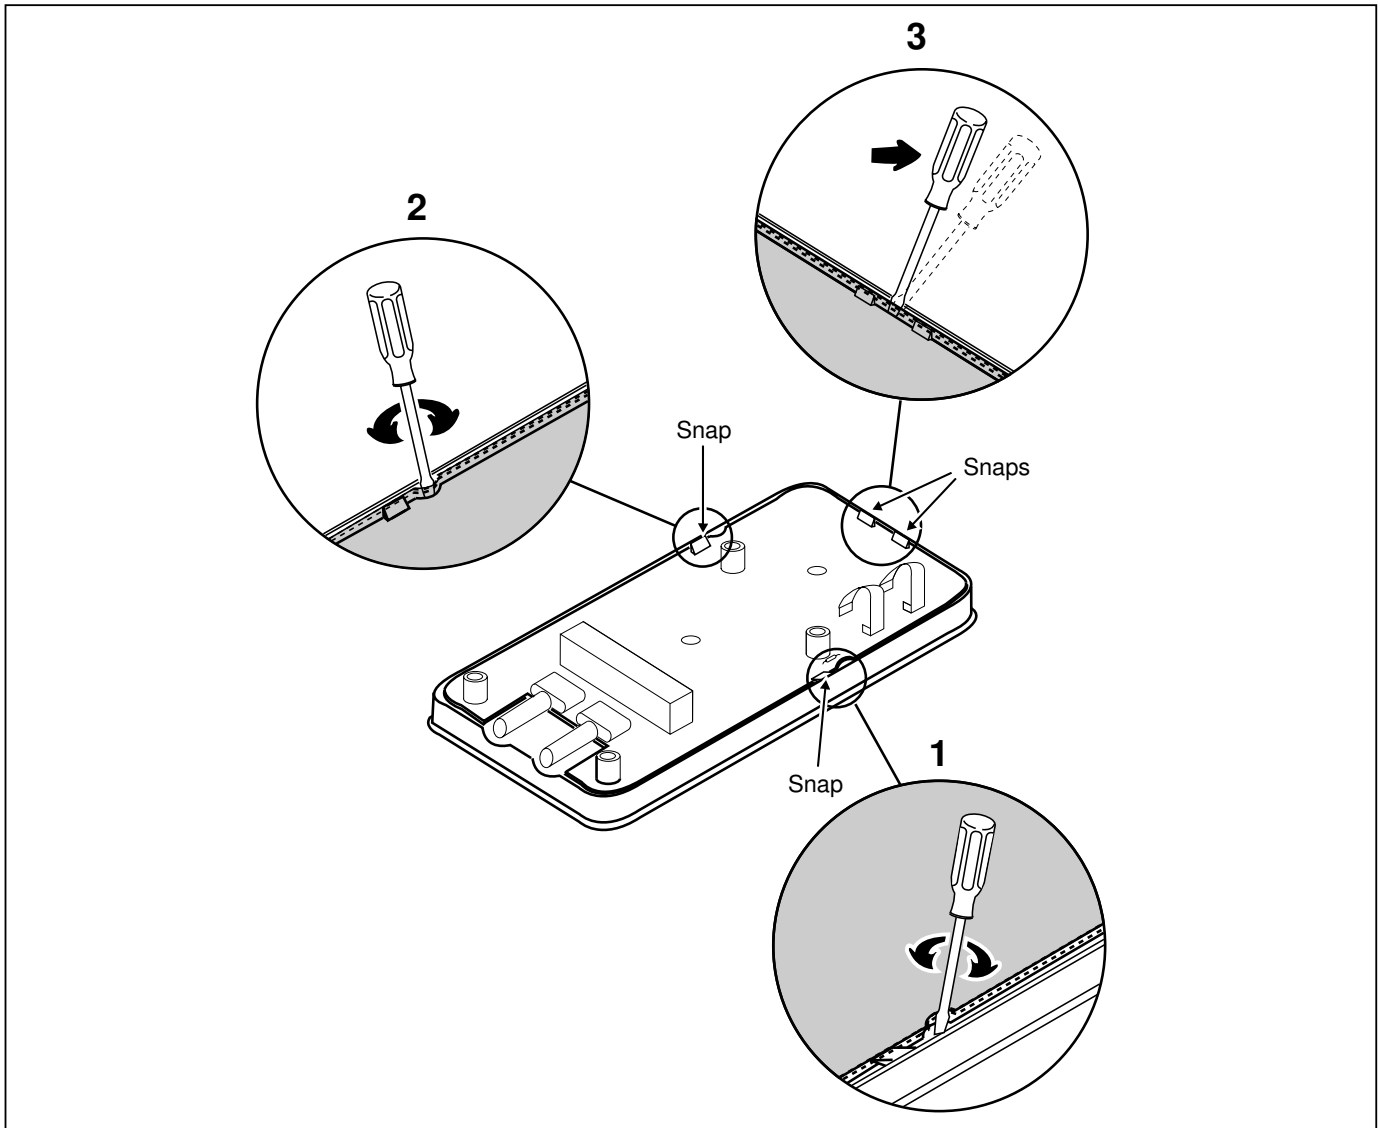

Figure 3. Removing and Reinserting the Printed Circuit Assembly (PCA)
6. Referring to Figure 3, insert a small, flat-blade screwdriver between the edge of the case top and the pca. Gently unsnap the case top from the pca.
User-replaceable parts, are listed in Table 5 and shown in in Figure 3.